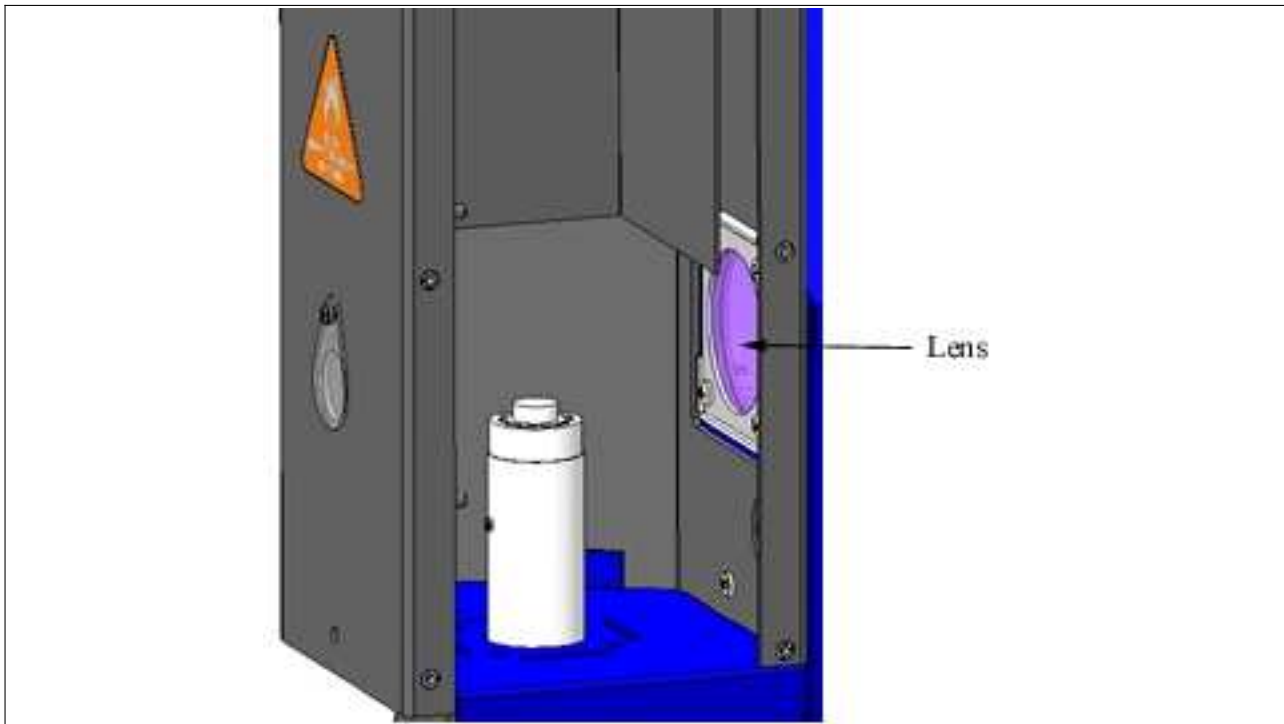

Figure 6.6
- Reach into the Outer Chimney and clean the window *very* gently using a *very* soft cloth or cotton swab soaked in Decon 90. See Figure 6.6.